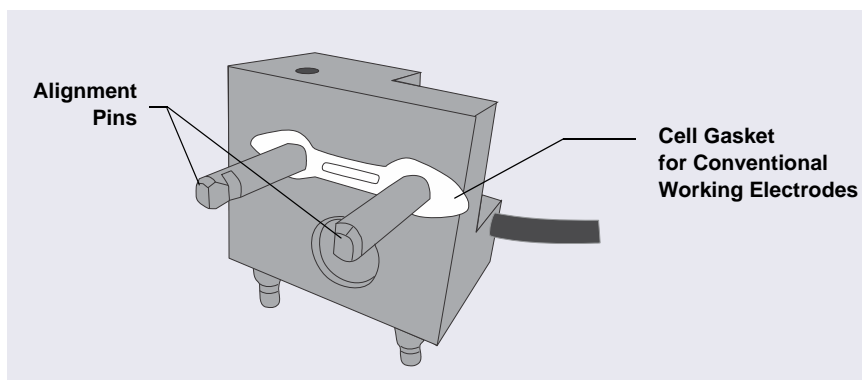

Figure B-5. ED Cell Gasket for Conventional Working Electrodes
1. Use tweezers to install the gasket over the alignment pins on the cell body (see Figure B-5). When correctly installed, one end of the gasket extends beyond the cell body, to facilitate gasket installation and removal.